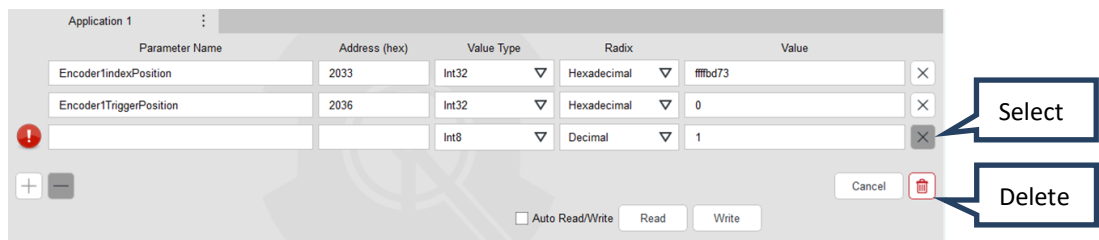

Figure 52: Delete Parameter
- Select the cross icon  for the parameter that will be deleted and then click the delete symbol  as shown in Figure 52.